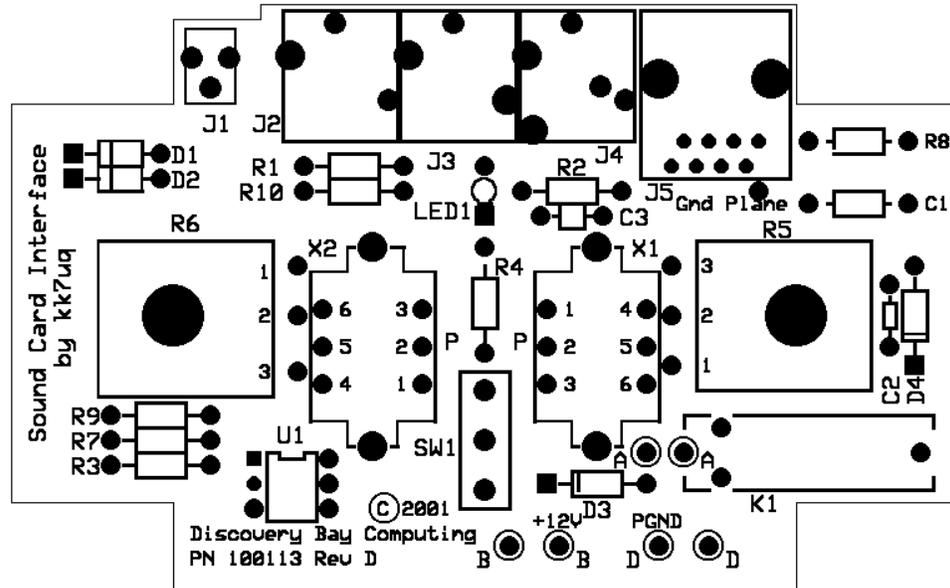

Figure 5.2 - Printed Circuit Board Assembly Diagram
5.1.3 Order of Assembly - A drawing of the component placements for the board is shown in figure 5.2, *Printed Circuit Board Assembly Diagram*, below. The list of components stuffed in the board and the order of assembly of the components is shown in 5.1.4 Component Stuffing List below..